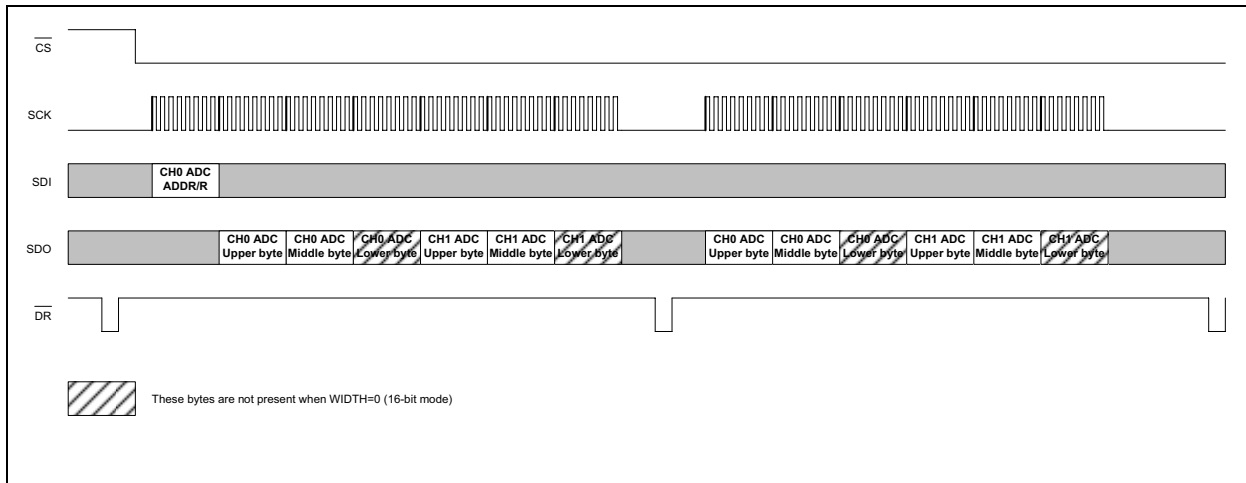

FIGURE 6-6: Typical Continuous Read Communication.
- Write all Configuration registers in one communication (see Figure 6-6)
Figure 6-6 represents a typical, continuous read communication with the default settings (DRMODE<1:0> = 00, READ<1:0> = 10) for both WIDTH settings. This configuration is typically used for power metering applications.
It is recommended to enter into ADC Reset mode for both ADCs, just after power-up, because the desired MCP3901 register configuration may not be the default one, and in this case, the ADC would output undesired data. Within the ADC Reset mode (RESET<1:0> = 11), the user can configure the whole part with a single communication. The write commands automatically increment the address so that the user can start writing the PHASE register and finish with the CONFIG2 register in only one communication (see Figure 6-6). The RESET<1:0> bits are in the CONFIG2 register to allow exiting the Soft Reset mode, and have the whole part configured and ready to run in only one command.